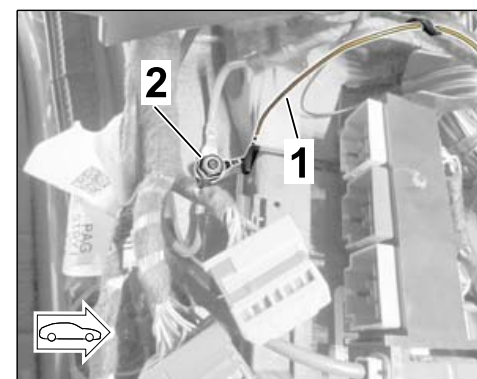

Figure 17
- Install cable shoe (ring eyelet) A6 on the ground pin (⇒ *Figure 17*).